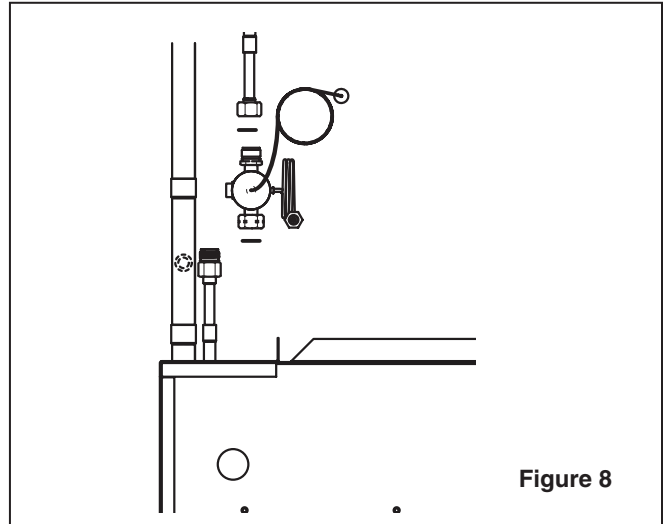

Figure 8
- DO NOT oil threads. To install the TXV, install one new O-ring over the Distributor Fitting (Figure 8). Install the other new O-ring over the Liquid Line Fitting and connect the adapters by hand to ensure proper mating of threads. The new O-rings are supplied in the kit. Tighten until bodies “bottom” or a definite resistance is felt. The valve will only fit in one direction of flow. Use a back-up wrench and tighten an additional 1/6 turn.